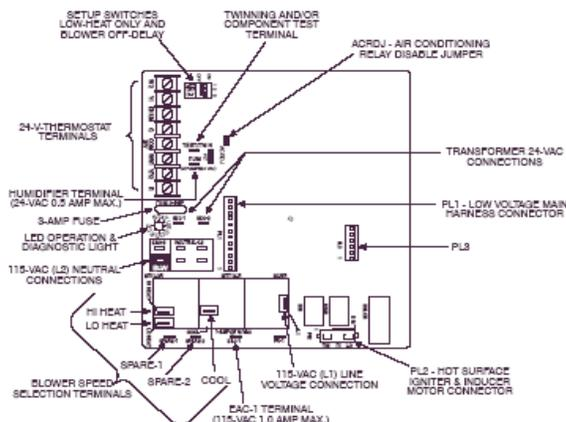

Fig. 5 - Two Stage Furnace Control
For **Two--Stage** furnaces turn LHT switch on furnace control to ON. (See Fig. 5.)
- F. Jumper R—W on single stage controls, or R--/W/W1 and W2 thermostat connections on the 2--Stage and Variable Speed furnace control. (See Fig. 5 or 6)
For **Two-Stage** furnaces turn LHT switch on furnace control to ON. (See Fig. 5.)
- A. Jumper R and W/W1 thermostat connections to call for low stage heat. (See Fig. 5 and 6)
- D. Jumper R, W/W1 and W2 thermostat connections on control. (See Fig. 5 and 6) This keeps furnace in high--heat.